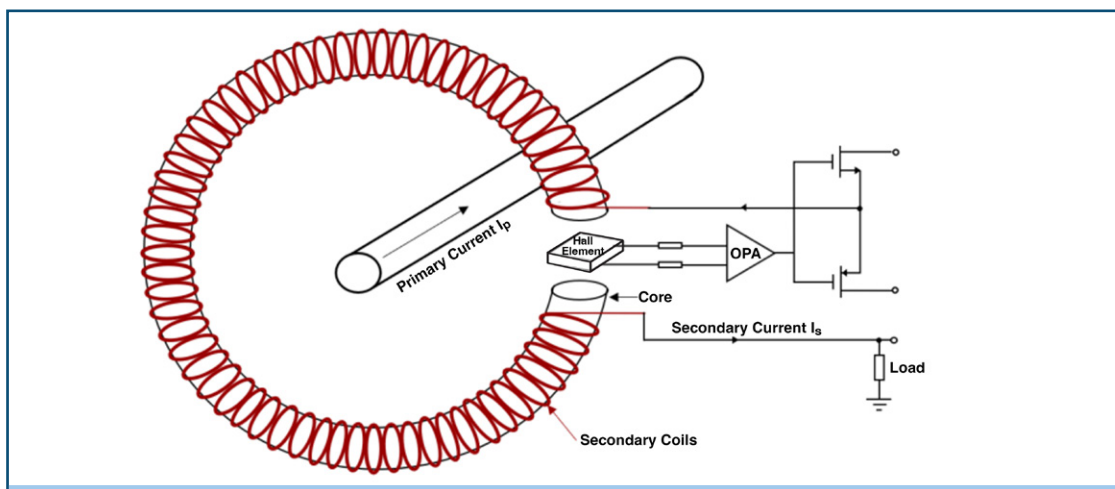

Figure 2. | Hall effect Sensor
To better understand how Hall effect sensors work, Figure 2 shows a diagram of closed loop Hall effect current sensing. When the primary current ( $I_p$ ) goes through the core, the core will induce a magnetic field called B. Then, when the Hall effect sensor detects magnetics in field B, it will generate a voltage drop called a Hall Voltage (HV). There is typically an amplifier positioned after the Hall effect sensor. Thus, when HV is generated, the HV will feedback to the secondary coil after it is amplified. This event allows the Hall effect sensor to stay in a zero-flux environment due to its HV, which is relevant to the amplitude of magnetic field B and is precisely generated by the input current flow  $I_p$ . The amplitude of the current flow is proportional to the input current flow  $I_p$ .
As shown in Figure 2, there are many factors that affect Hall effect sensor operation. It is important to note that all the components, including OPA (Operational Amplifier), MOSFETs/transistors and Hall effect sensors, will require extra power sources to maintain operation in the initial stage to sense the voltage generated by the magnetic field or their signals can be lost. And, as a magnetic field's strength is increased, the saturation level of the Hall sensor will be reached. This value will be high enough to drive internal circuitry to turn itself on, whereas, when the magnetic field disappears, the internal circuitry is turned off. The differential between the internal circuitry being turned on and turned off is called hysteresis deviation. The value of the hysteresis deviation depends upon the magnetic material used and its magnetic strength, size, the distance between the magnetic material and the Hall effect sensor and the operating temperature. And, because the HV is sensed and generated by a magnetic field, the secondary coil may also be affected by external magnetic fields.